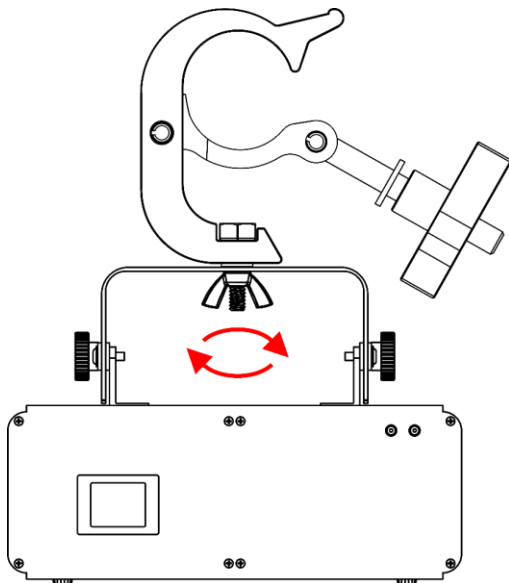

Fig. 05
- 03) Turn the **hex nut (07)** counterclockwise, to remove it.
- 04) Turn the **wing nut (06)** counterclockwise, to remove it.
- 05) Attach a load to the **hex bolt (08)** and secure it in one of the 2 ways:
- Temporary installation: Put the **wing nut (06)** on the **hex bolt (08)** and turn it clockwise, to tighten the load (Fig. 05).